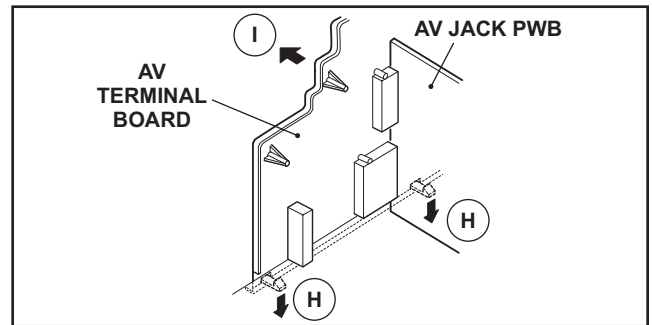

Fig.2
- (2) Remove the 2 claws [H] at the bottom of the AV TERMINAL BOARD as shown in Fig. 2.
- (3) Shift the AV TERMINAL BOARD slightly in the direction of arrow [I], and remove it as shown in Fig. 2.